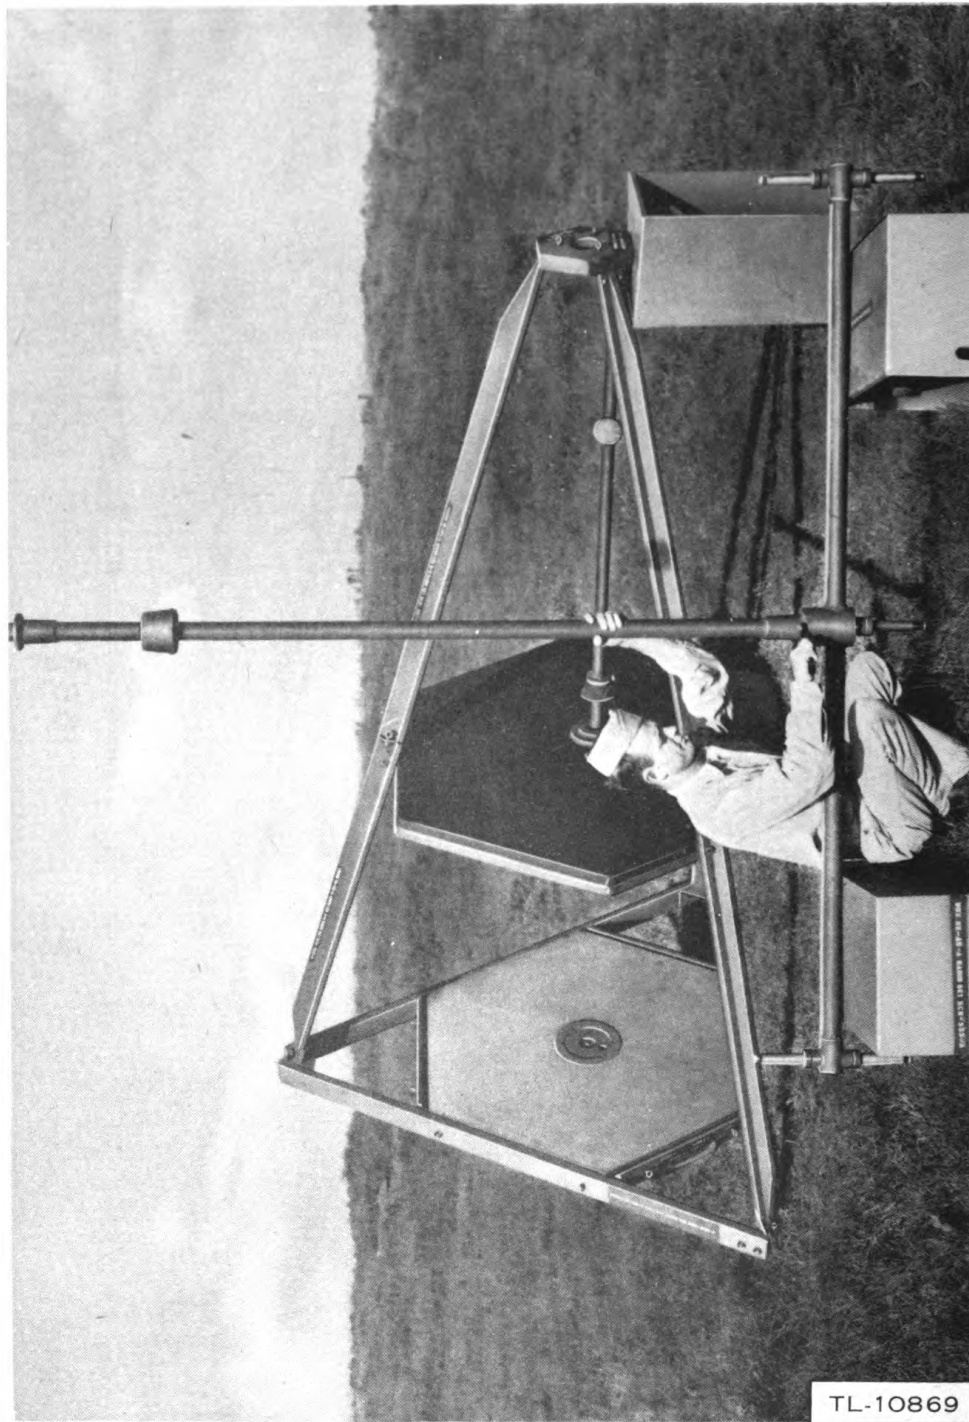

Figure 15. Assembly of antenna mast to crossarm.
(1) Remove the lower mast section and the drip flange. Place the drip flange over the opening in the center of the roof, with the larger opening in the drip flange sliding over the wooden ring on the roof. Place the end of the lower mast section in which there are three jacks through the drip flange and the opening in the top of the roof (fig. 15).
(2) Remove the crossarm assembly from the chest and place over two Boxes BX-45-A and BX-46-A (fig. 15).
(3) Remove the upper mast section from its chest and place it over the crossarm section so that the mounting holes are aligned. Fit these pieces together so that the plugs and jacks are engaged, and bolt with $\frac{3}{8}$ "-16 x 1" hexagonal head cap screws. Wrenches for tightening these screws are